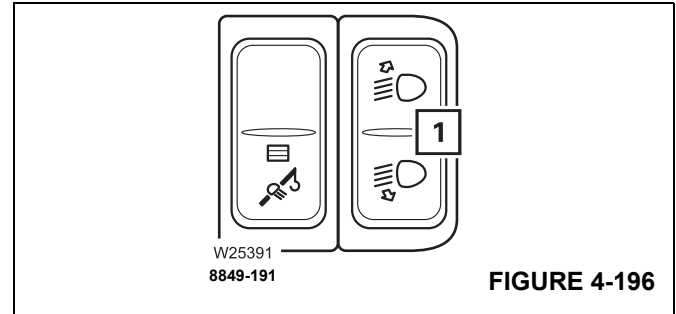

FIGURE 4-196
- Push the button (1), (Figure 4-196) up.
- Push the button (1), (Figure 4-196) down.